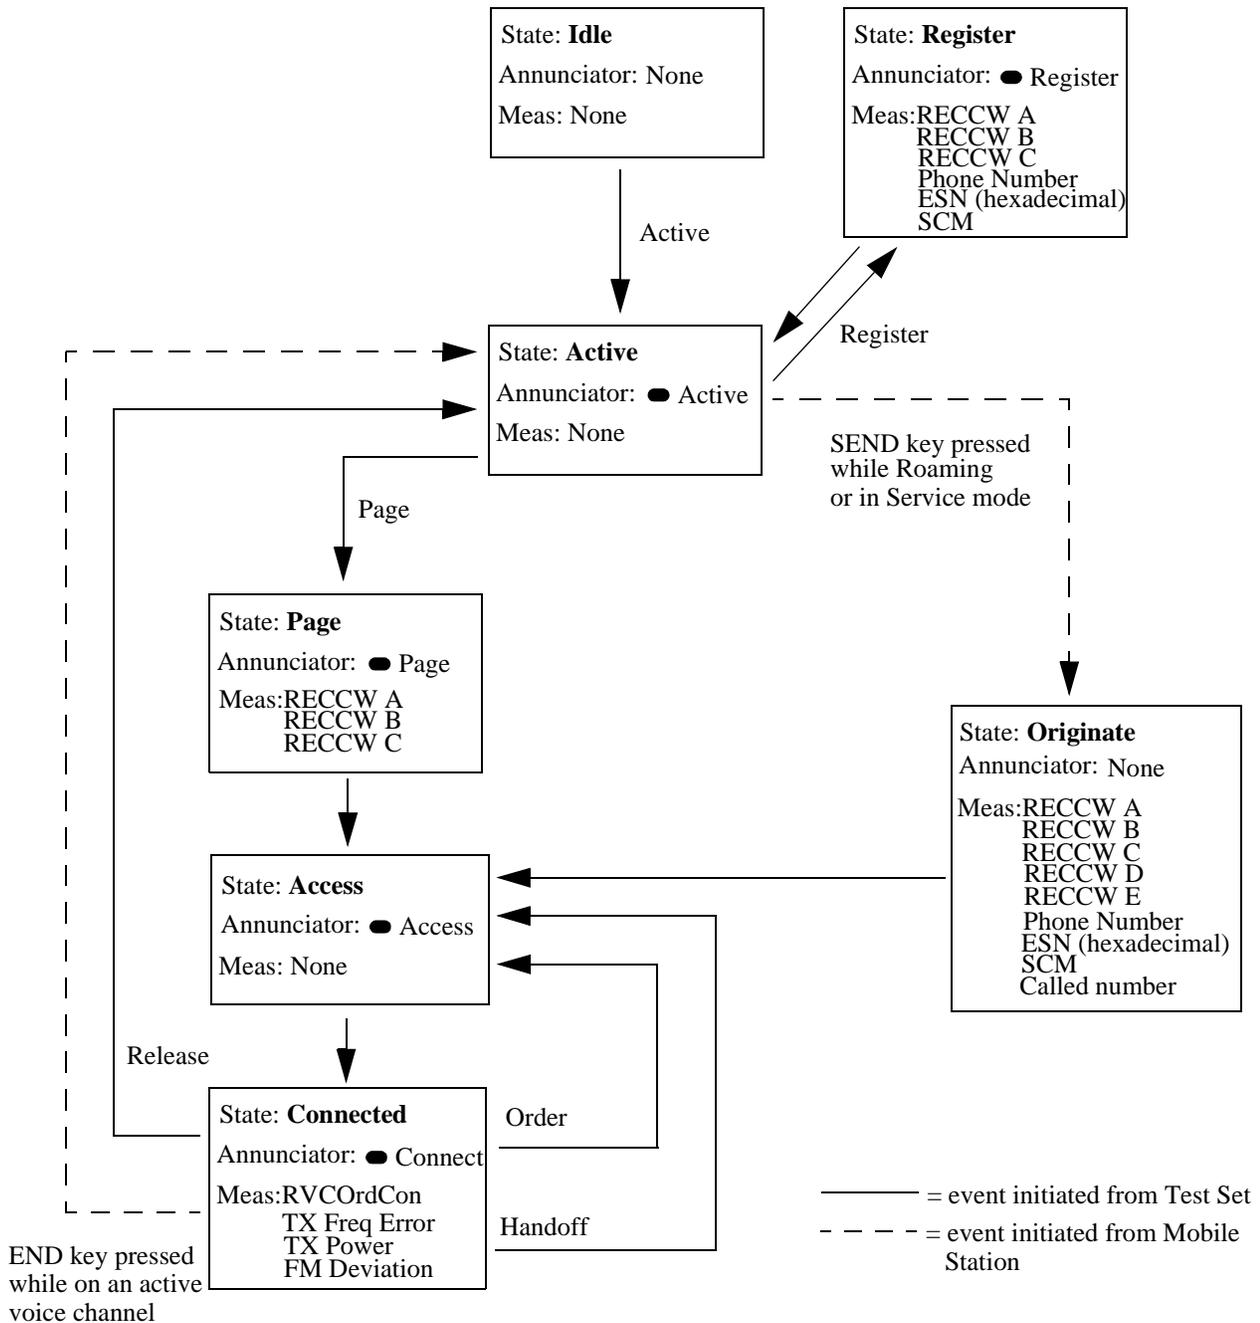

Figure 1 Call Processing State Diagram
**Figure 1, "Call Processing State Diagram," on page 266** illustrates the primary call processing functions available in the Analog Call Processing Subsystem. Each box represents a call processing state and includes the measurement information available while in that state. The events which trigger transitions between the various states are shown on the diagram. Events which are initiated from the Test Set are shown in solid lines and events which are initiated from the mobile station are shown in dashed lines. The annunciators on the call processing screens will be lit while in that call processing state.